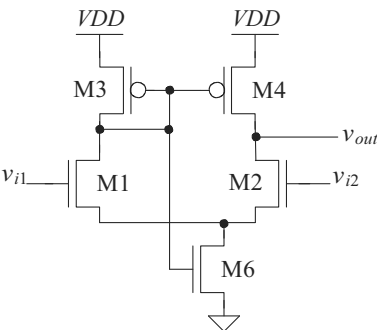

Figure 22.41 A self-biased NMOS diff-amp.
22.15 Using symbolic analysis, determine the small-signal gain of the self-biased diff-amp seen in Fig. 22.41 (see also Fig. 18.17).